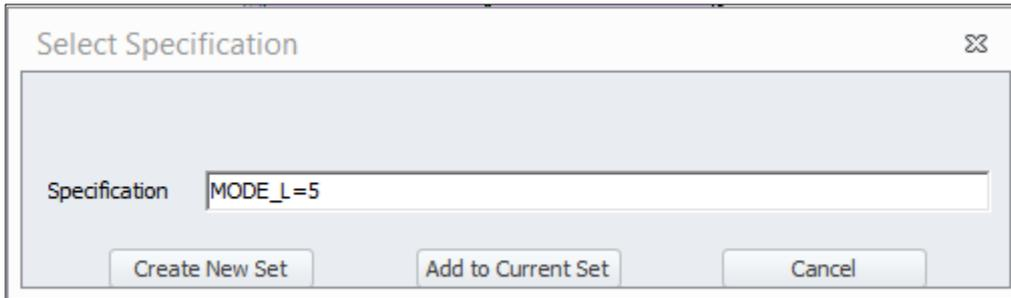

Figure 42 The Select Specification window.
- 2) In the Select Specification window, right click in the blank field to see the attribute list (note: it only shows attributes from the active layer – to access other attributes, select another layer in the TOC), select the attribute for applying the condition (in the example in Figure 42, select all the links on mode 5 – air)